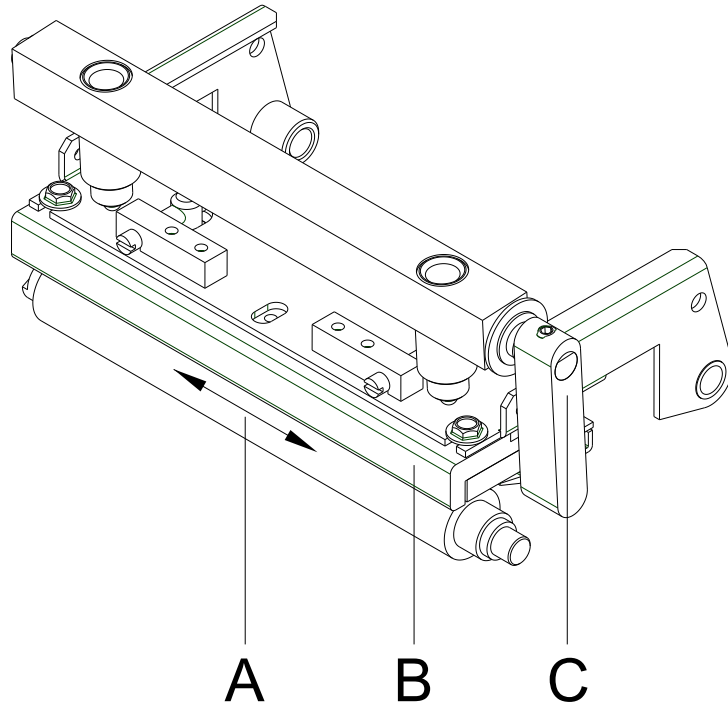

Figure 16
2. Turn the lever (A, in Figure 16) counter clockwise to lift up the printhead.
7. To move the printhead down, turn the pressure lever (A, in Figure 16) in clockwise direction until it locks.